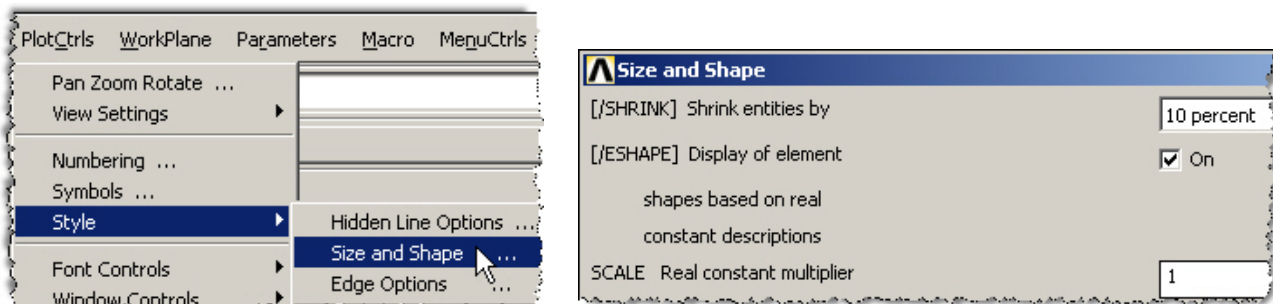

Figure 9 Displaying element shapes
2. **Size and Shape**→ **Element SHAPE** (ESHAPE) on. **Shrink** if desired (Figure 9).